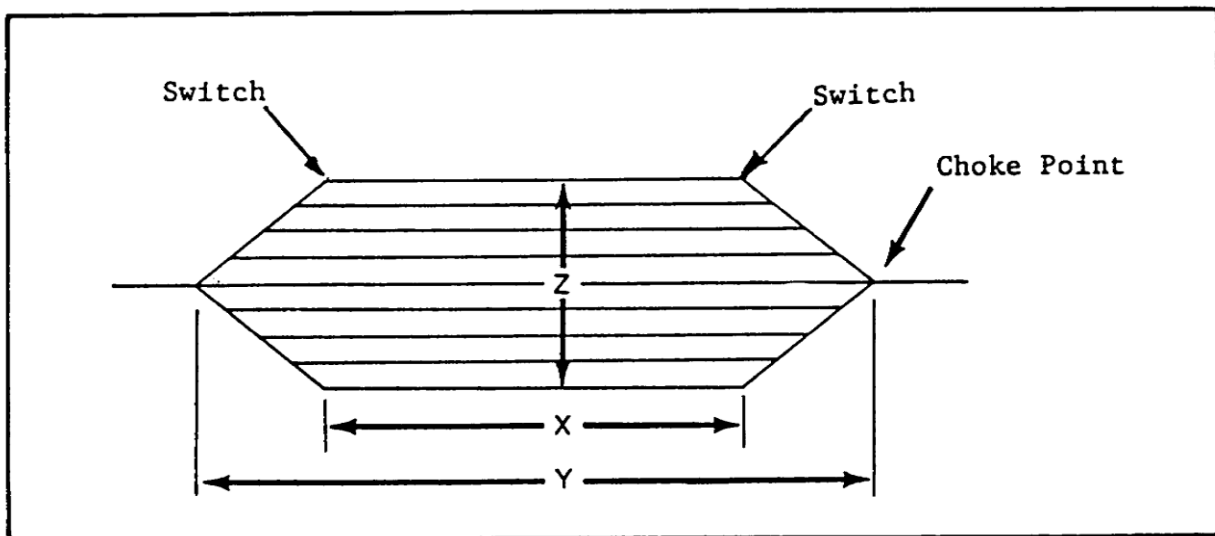

Figure 1-8. Marshaling Yard Capacity.
c. Marshaling yard capacity. An approximate estimate of the car capacity of a marshaling yard is important to the IA in making up the report for the commander. Use the following steps (Figure 1-8):
(1) Measure the length of the longest and shortest tracks of the yard. When measuring the longest track, measure it from choke point to choke point. Measure the shortest track from switch to switch located at the end of the shortest track.
(2) Average the track length measurements.
(3) Count the number of tracks across the widest portion of the yard and multiply those times the average track length.
(4) Determine the average car length and divide it into the results of (3) above.